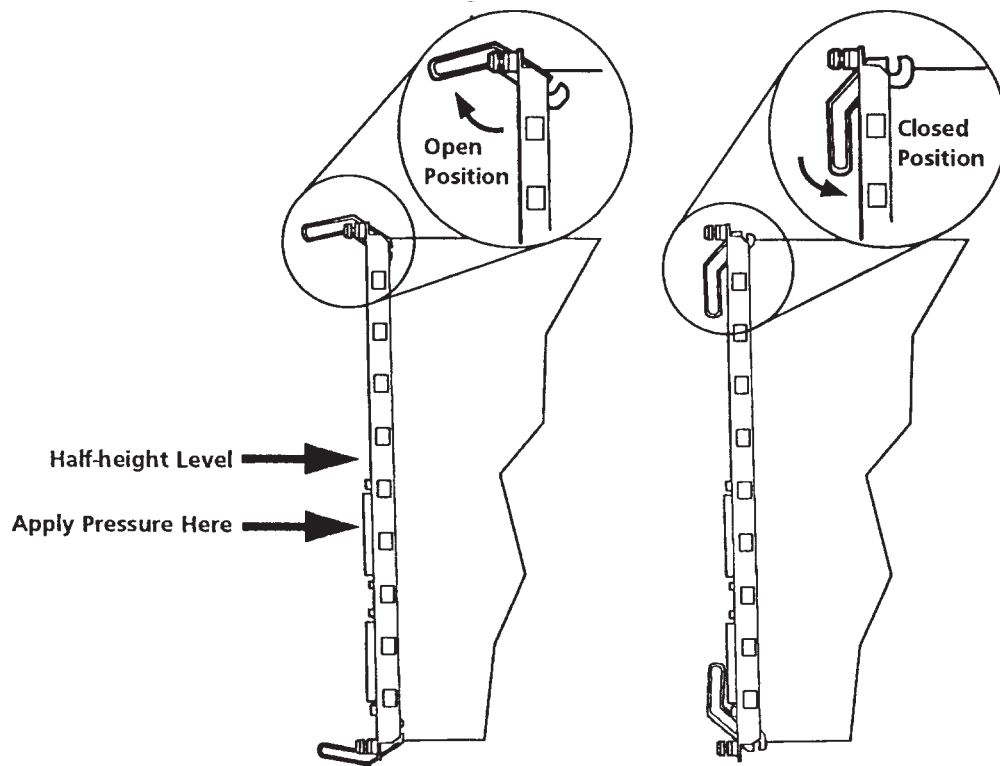

Figure 4. 8260 Module Ejectors
2. Insert the A-CPSW module into slots 9 and 10 (or slots 11 and 12 in A17 models) of the hub by matching the top and bottom board guides as you slide the module cleanly into place (by pressing evenly on the top and bottom of the faceplate). Do not attempt to push the module all the way into the hub until you have verified that the top and bottom module ejectors are OPEN (see Figure 4 on page 18.)